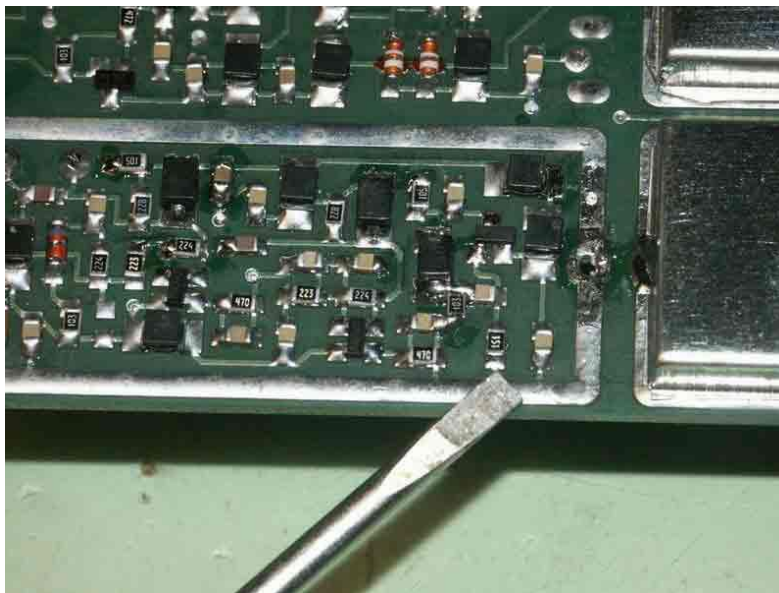

Figure 4: Location of R95
8. Remove the shield by unsoldering the tabs at each end and carefully lifting the shield upward. The screw driver tip in Figure 4 shows R95 with the shield removed. **Note:** Some have reported that the shield may be soldered in several places requiring the judicious use of *Solder Wick* to remove.